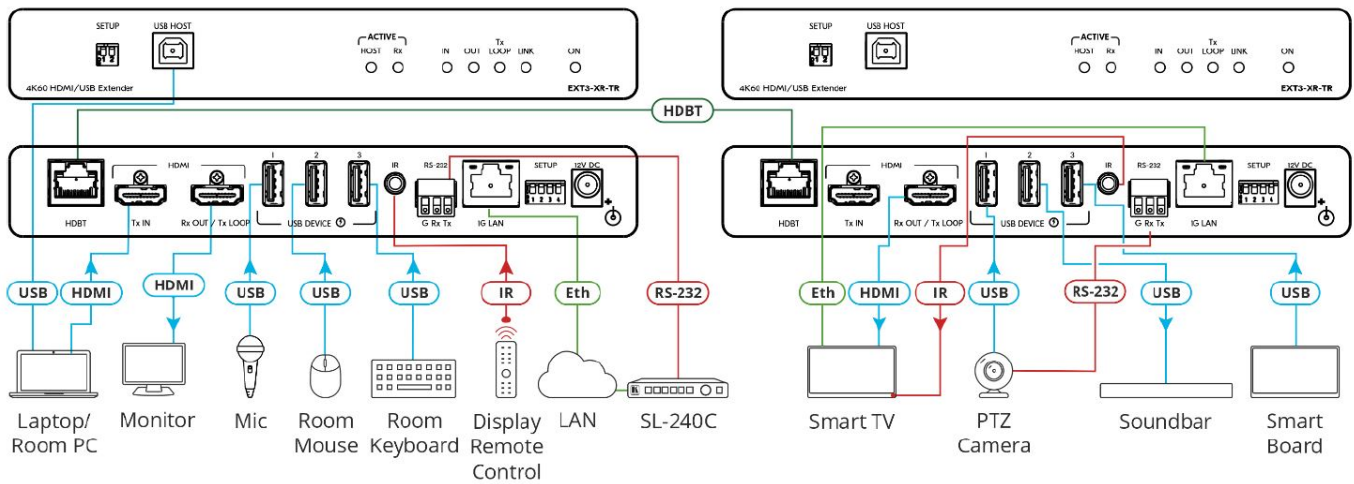

Figure 5: Connecting to EXT3-XR-TR
To connect EXT3-XR-TR as illustrated in the example in Figure 5
- Connect the power adapter to EXT3-XR-TR and to the mains electricity (not shown in Figure 5).